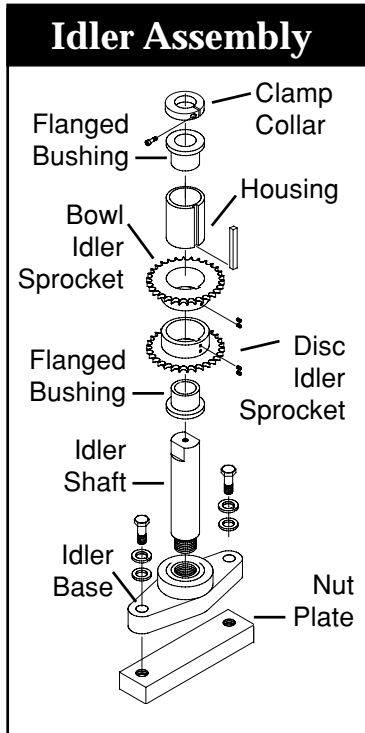

Figure 5-2. Idler Assembly
It's recommended that you grease the idler assembly, for both metric and ANSI single drive models, every six (6) months after installation. Note the order of assembly (see Figure 5-2 on page 41.)
If component replacement is necessary note the order of assembly in (Figure 5-2).